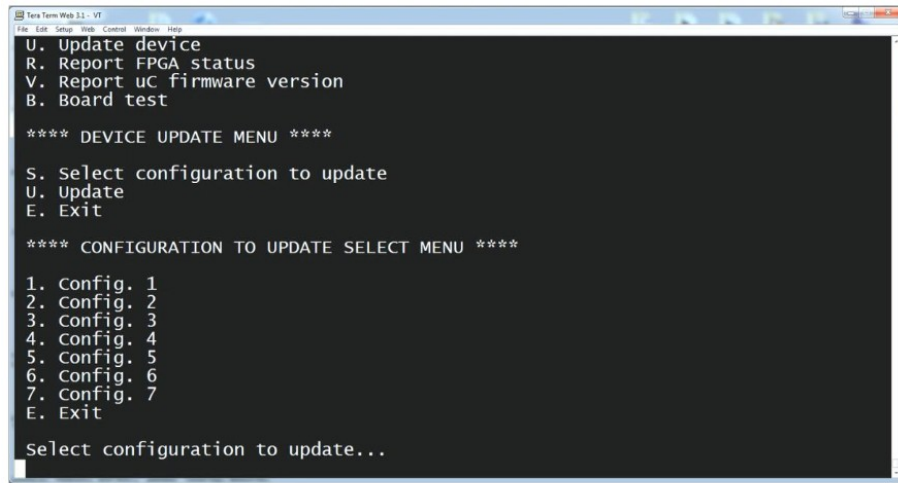

Figure 5. Opened the Pixblasters Configuration Selector Menu
- Hit 'S' to open the configuration selector menu (Figure 5)
- Hit '3' to select the FPGA configuration No. 3 for the update (Figure 5)
- At the end of the update, the Device Update Menu (Figure 5) pops-up again. Select 'E' to exit.